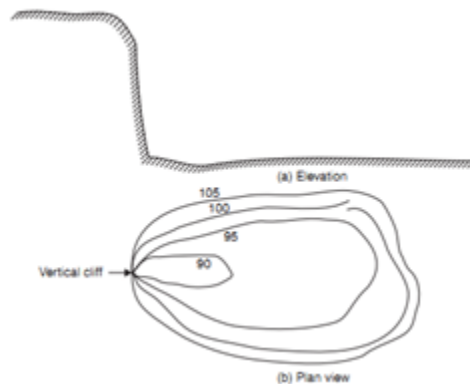

Fig. 4
11. If contour lines are meeting in some portion, it shows existence of a vertical cliff (Fig. 4).